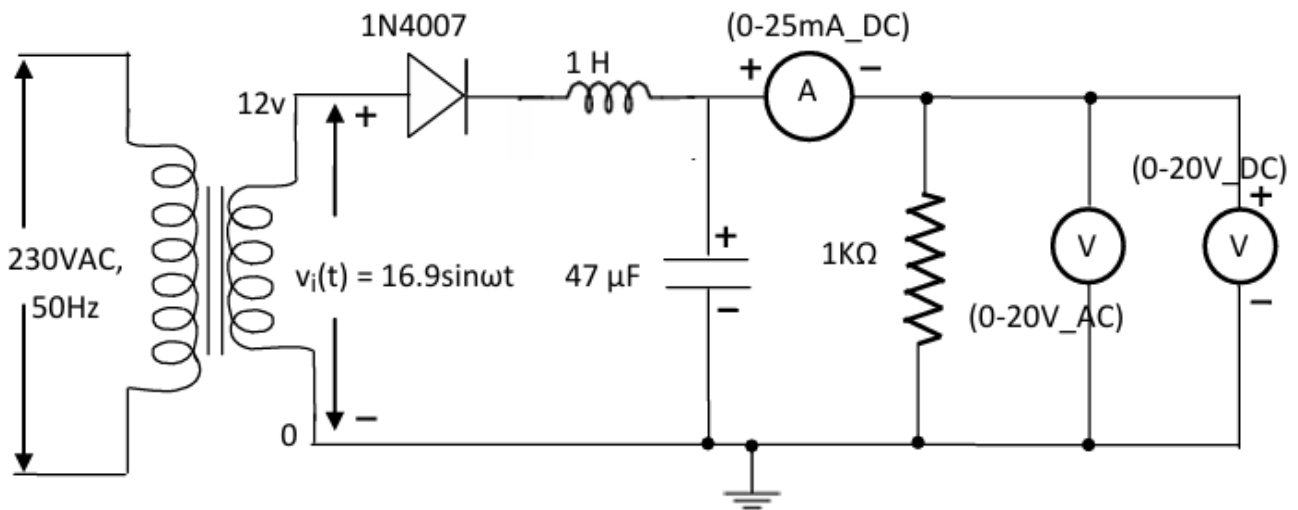

Fig.4 Half-Wave Rectifier with L-section filter
1. Connect the inductor according to the diagram in Fig.4.